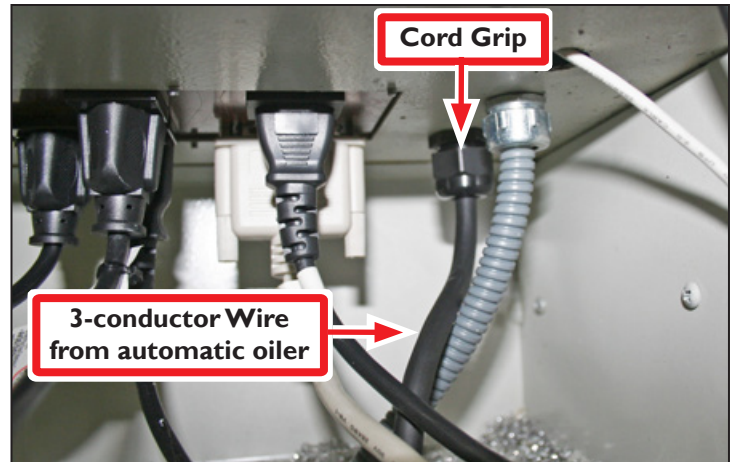

Figure 5
- Using Cord Grip, run 3-conductor Wire through bottom of electrical cabinet via knockout hole (see **Figure 5**); tighten with Cord Grip Nut.